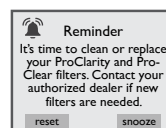

Figure 15.0d
20. ProClarity/ProClear Filter Reminder: This message will appear when the filter reminder time has expired (Figure 15.0d). Remove the ProClarity/Proclear filters and filter/debris bag for cleaning or replacement.